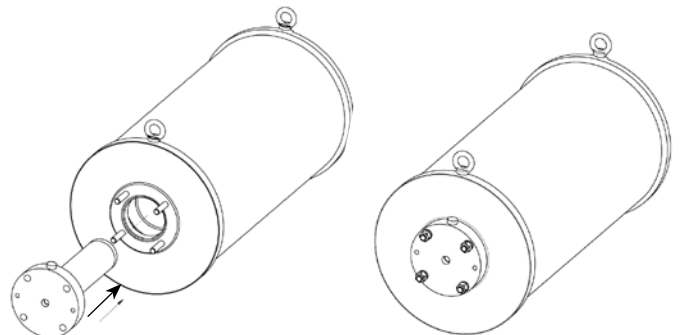

Fig.: 1 Insert Hydraulic Cylinder
4.2.3 Thread in the studs (1), from the override mounting kit, into the thrust base and insert the Hydraulic Cylinder into the Spring Module to mate the cylinder flange inner face to the thrust base, keeping the air venting plug to the top (see Fig.: 1).